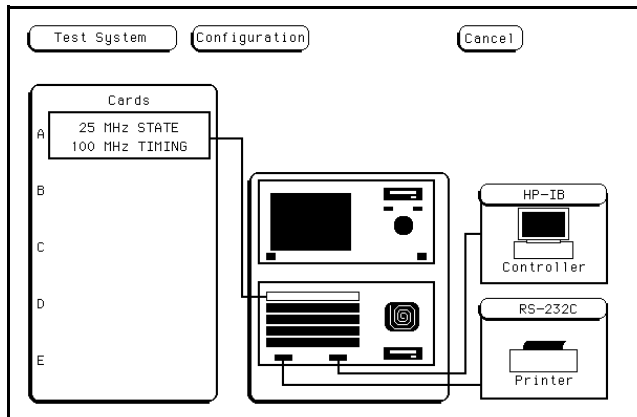

Figure 6-4. Test System Screen
- d. From test screen in figure 6-4, touch **Test System**, then touch **State/Timing**. (If multiple state/timing modules, select the one to be tested)